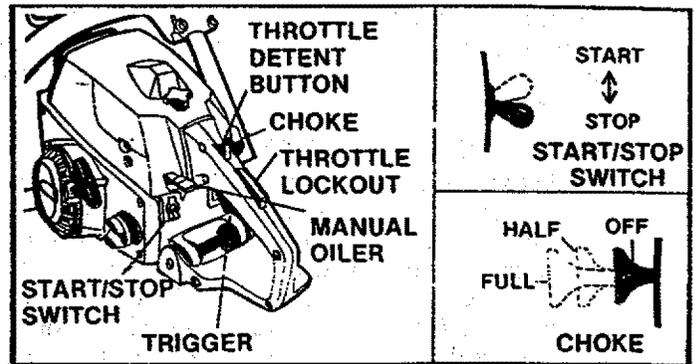

Figure 13
Understanding the control devices on your saw is an important part of learning how to properly and safely operate the unit. Figure 13.
- e. Stop engine by moving the ignition switch to the "STOP" position (Figure 13).
* Allow engine to warm-up thoroughly on half-choke, then move choke to the "Off" position. Do not cut with the choke at the "On" or "Half" position. Figure 13.